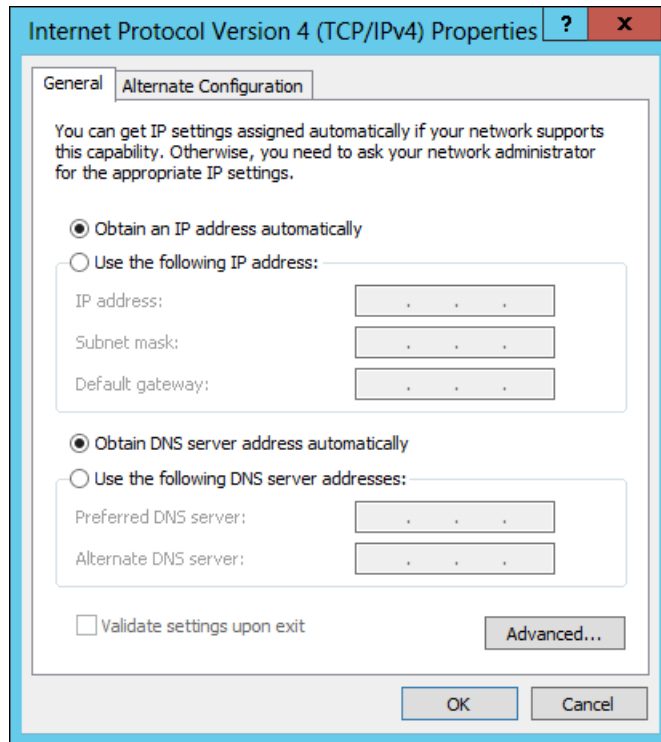

Figure 5-16 Configuring an IPv4 address in Windows 2012 R2
- For IPv4, the window that is shown in Figure 5-16 opens. To manually set the IP, select **Use the following address** and enter an IP address, subnet mask, and gateway. Set the DNS server address, if required. Click **OK** to confirm.